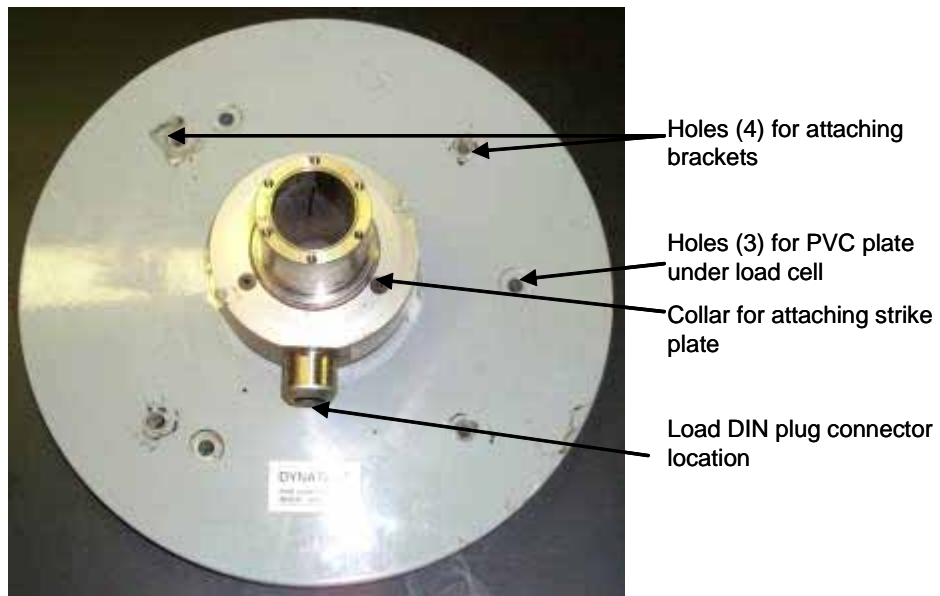

Figure 93. Load plate (base down).
1. Place the load cell base down (figure 93).